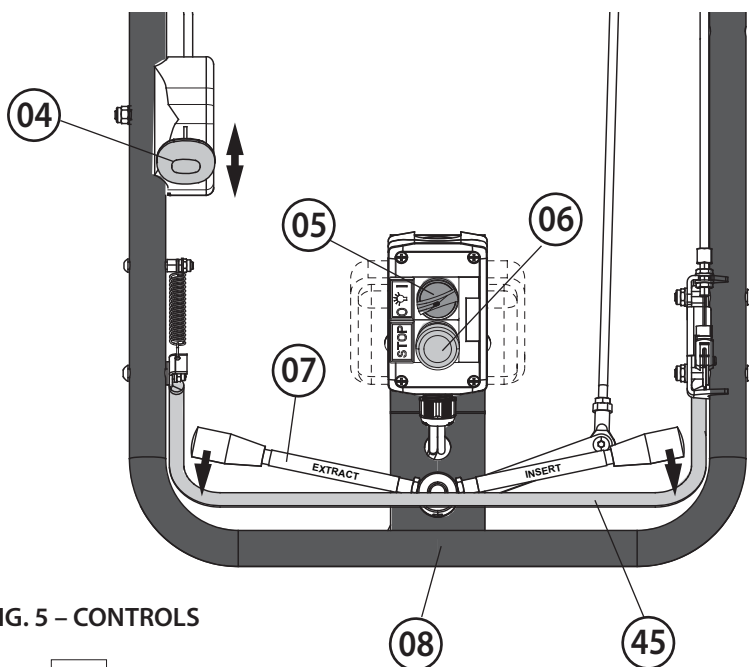

FIG. 5 – CONTROLS
- Press the handle (45) to verify the correct engagement and disengagement of release pin (P) from the wheel (Ref. to Fig. 5 and 3c).
4.3) Controls (Ref. to Fig. 5)